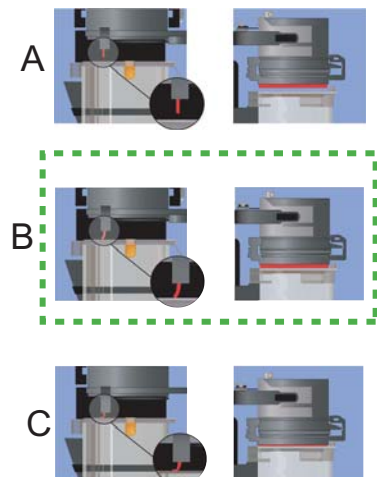

Figure 8-1
4. Check the position of the wiper on the filter, the wiper must rest slightly curved on the filter surface (*see figure 8-1*)